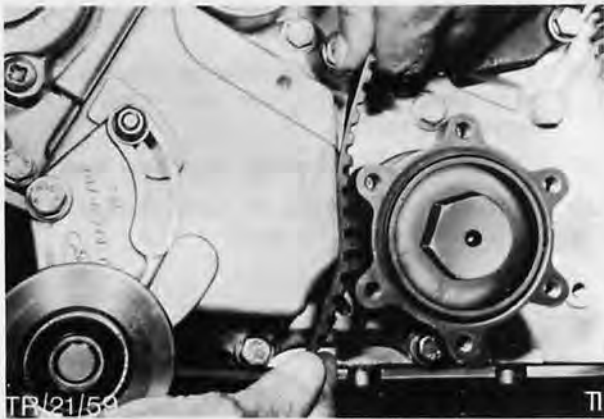

Fig. 153. Position toothed belt
28. Slacken toothed belt tensioner and position toothed belt, Fig. 153.